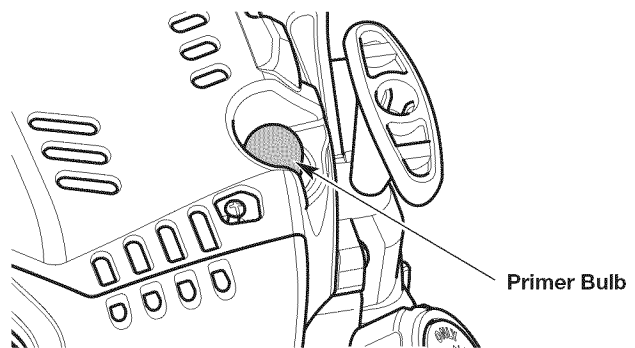

Fig. 13
3. Slowly press and release the primer bulb **10 times** (Fig. 13).